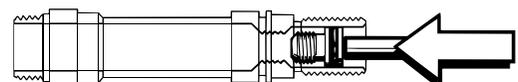

Fig. 11 - Crown Installation
5. Install each exhaust valve diaphragm(6) into the box bottom by gently pulling the stem through the hole in the center of the support spokes, until the barb has passed through and is securely seated against the opposite side. Carefully snip off the excess material of each stem with a small pair of scissors, and set the box bottom aside.
6. Install the O-ring(11) onto the crown(12), and carefully insert the threaded end of the crown into the inlet end of the valve body(21). Gently press it in further with the blunt end of the Seat Extraction Tool (P/N 1094-36) until it stops (see Fig. 11).